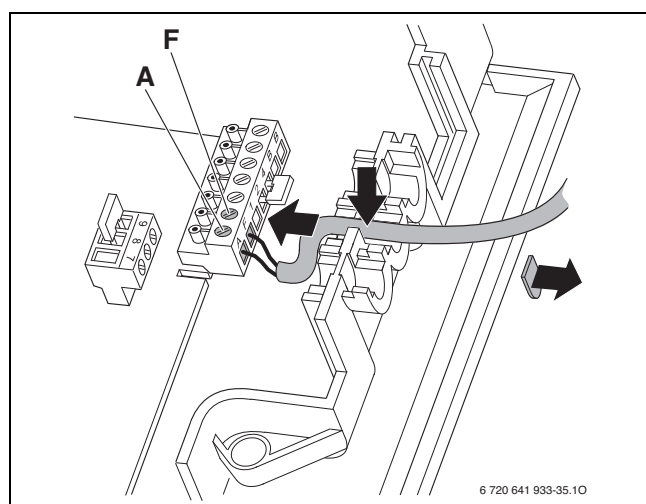

Fig. 46 Electrical wiring outdoor temperature sensor
- ▶ Connect cable of the outdoor temperature sensor according to Fig. 46.